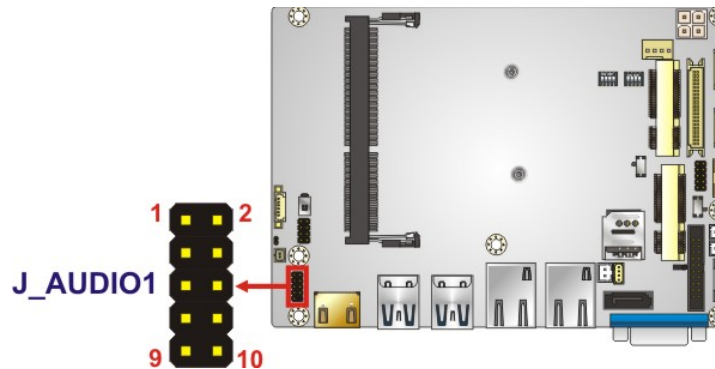

Figure 3-4: Audio Connector Location
- CN Location:     See **Figure 3-4**